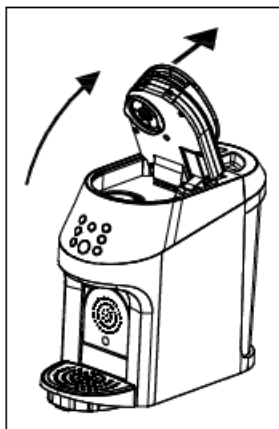
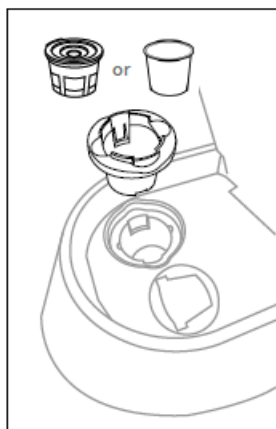
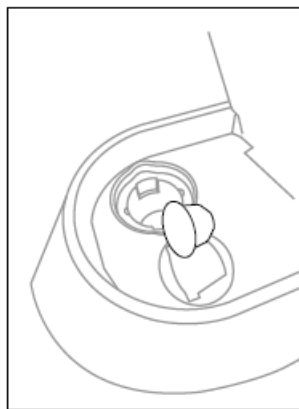
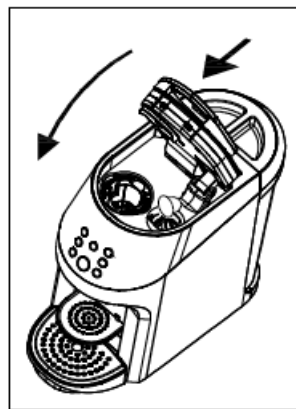

Fig.1
Fig.2
Fig.6
Fig.7
3. Access the Pod Brew Area. Place your hands on the Top Ring Handle and pull up until the lid is fully open (see Fig.1). This will give you access to where you'll insert your *K-Cup® and **Nespresso® pods.
4. Insert a *K-Cup® pod into the left side of the Pod Brew Area (see Fig.2). Inside the Pod Brew Area, there are two inlets of different shapes, side-by-side. The left inlet fits a *K-Cup® pod, while the right inlet fits a **Nespresso® pod. To brew a cup of coffee, insert a *K-Cup® into the left inlet making sure to secure it firmly in place.
4. Insert a **Nespresso® pod into the right side of Brew Area (see Fig.6). Inside the Pod Brew Area, there are two inlets of different shapes, side-by-side. The left inlet fits a *K-Cup® pod, while the right inlet fits a **Nespresso® pod. To make a cup of espresso, insert a **Nespresso® Original Line pod into the right inlet making sure to secure it firmly in place.
5. Close the Pod Brew Area. Pull the Top Ring Handle down to close (see Fig.7). Once secured, it will click. The unit will not begin the brew cycle unless this lid is fully closed.
2. Lift the handle and open the top lid (see Fig.1), insert a *K-Cup® pod (see Fig.2) and a **Nespresso® pod (see Fig.6) of the Pod Brew Area, then press the handle down to close the top lid (See Fig.7). Inside the Pod Brew Area, there are two inlets of different shapes, side-by-side. The left inlet fits a *K-Cup® pod, while the right inlet fits a **Nespresso® pod. To brew a cup of coffee, insert a *K-Cup® into the left inlet making sure to secure it firmly in place.